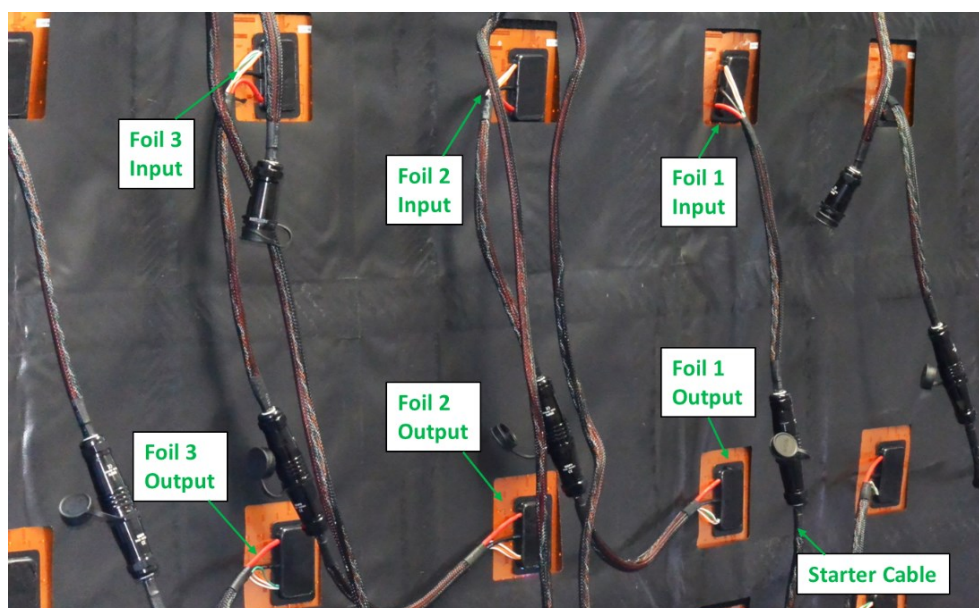

Figure 8: Cable connection and cascading multiple foils
- Connect the output connector of foil 1 to input connector of foil 2 and repeat, if applicable (based on starter cable length). See Figure 8 for reference. Ensure that the connectors are properly locked with their corresponding counterparts, e.g. by trying to pull them apart. If they are properly connected, it is not possible to pull them apart without releasing the lock.